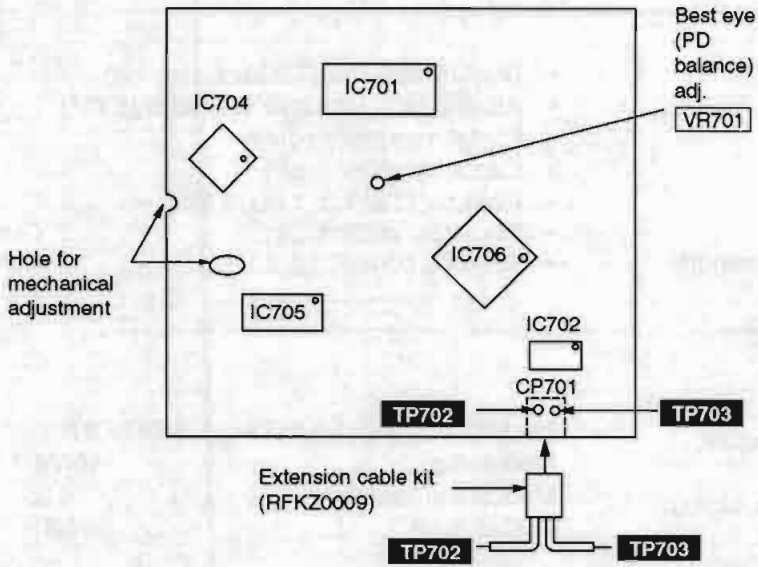

Fig. 1
3. Adjust VR701 until the vertical fluctuation of RF signal is minimized and the eye pattern is moststretched. (Refer to Fig. 1 on page 22)